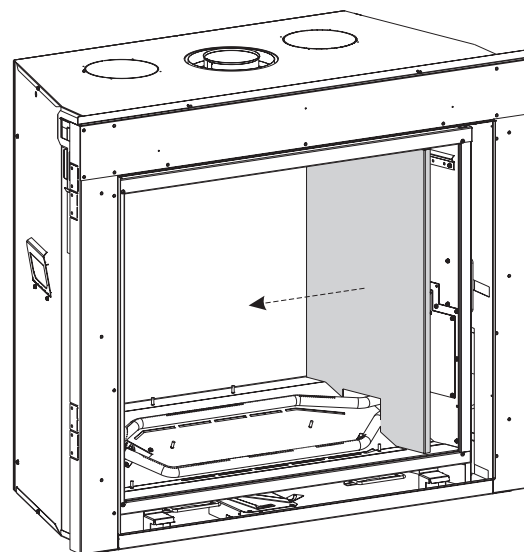

Figure 106
4. Remove right liner panel. **See Figure 106.**